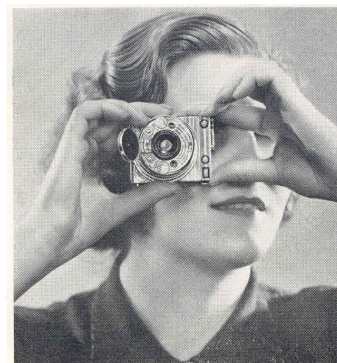

FIG. 3.—How to hold the Camera when operating the Range-Finder
The easiest way is to hold the camera sideways between the first finger and thumb of the left hand and turn milled Focussing Ring (19) with first finger and thumb of the right hand, in which case images when out of focus will be displaced vertically (see Fig. 3).